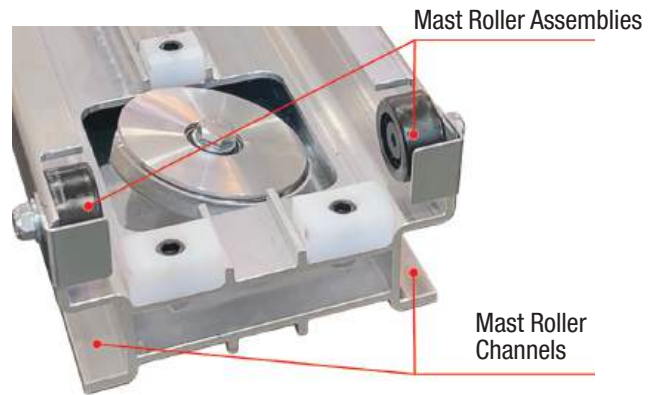

Figure 4-14: Mast Roller Assemblies and Mast Roller Channels
15. Re-install the last mast section removed in step 10. Align the roller assemblies on each side at the top of mast section with the roller channels at the bottom of the mast beneath (see Figure 4-14). Slide the mast section about half way, making sure the lower pulley assembly is accessible from beneath the mast section.